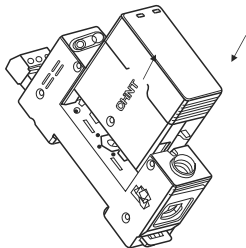

Figure 7 The replacement of the protection module taking NXU - F/ as an example
- 4) When replacing the protection module, pull it out in the vertical direction and do not swing it left and right or up and down. Insert a new module in the vertical direction and check if the specification and model match; do not insert it forcefully if it is blocked, and the reason may be that the specification and model do not match or the direction is incorrect and should be adjusted. See Figure 7.